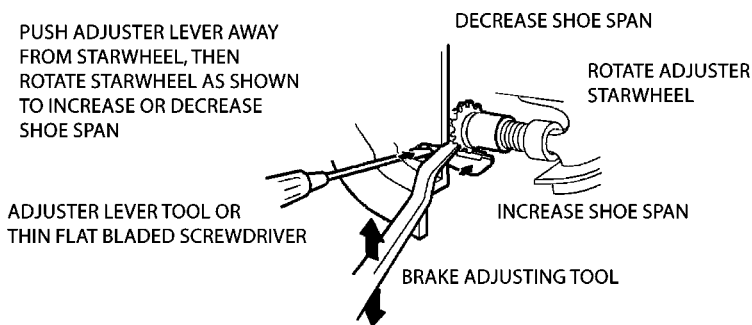

Figure 8. Brake Adjustment With Drum In Place (cut away view)
If the drum proves difficult to remove, insert a thin flat bladed screwdriver through the brake adjusting hole in the backing plate and disengage the adjuster lever from the adjuster nut teeth. With the adjuster lever disengaged as shown in Figures 8 and 9, insert a brake adjusting tool (or flat bladed screw driver) through the adjusting hole to engage the adjusting nut teeth. Move the teeth upward enough times to retract the brake shoes to clear the drum. If the drum is rusted to the axle input flange yoke pilot, tap the center of the brake drum with a nonmetallic mallet to loosen.
- (2) Insert the adjuster lever tool or a thin flat bladed screw driver through the adjusting slot in the backplate and push on the adjuster lever to disengage it from the adjuster starwheel. Insert a brake adjusting tool (or flathead screwdriver) through the adjusting slot and move the starwheel teeth downward to expand the brake shoes outward. See Figures 8 and 9. Continue expanding the shoes until the drum can not be rotated by hand.
- (3) Now adjust the starwheel teeth upward to retract the shoes until the drum just begins to rotate freely by hand (without drag from the shoes). See Figures 8 and 9.
If the drum proves difficult to remove, insert a narrow screwdriver through the brake adjusting hole in the backing plate and disengage the adjuster lever from the adjuster nut starwheel teeth. With adjuster lever disengaged as shown in Figures 8 and 9, insert a brake adjusting tool (or screw driver) through the adjusting hole to engage the adjusting nut teeth. Move the teeth upward enough times to retract the brake shoes to clear the drum. If the drum is rusted to the axle input flange yoke pilot, tap the center of the brake drum with a non-metallic mallet to loosen.